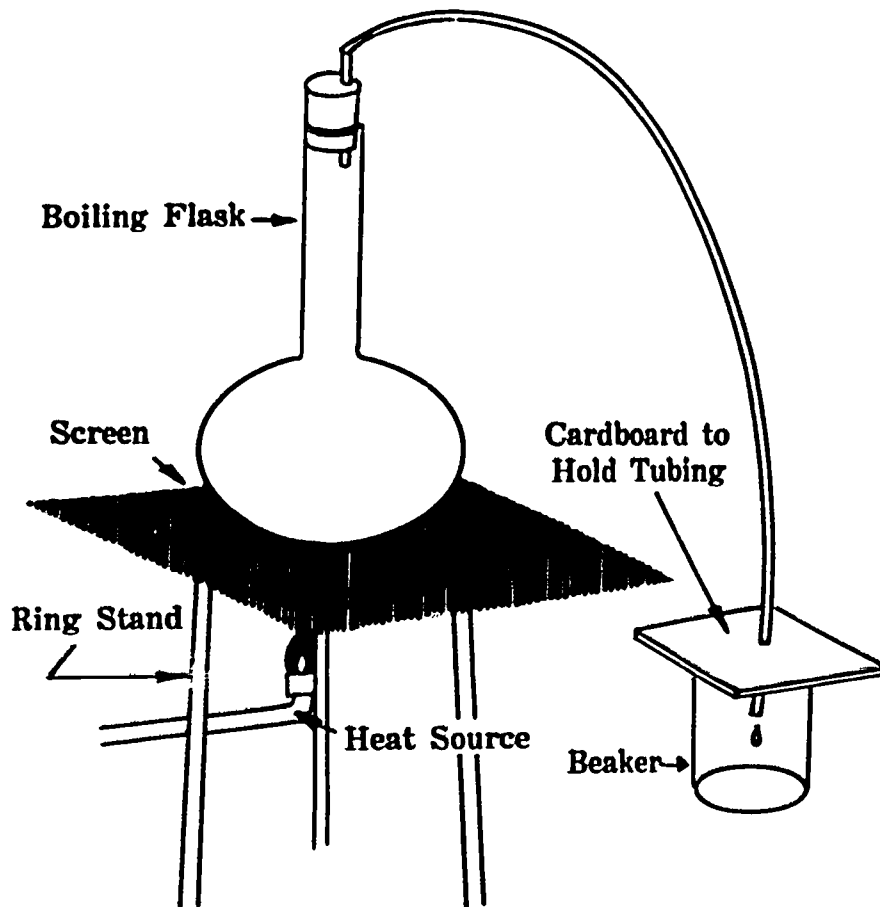

Fig. 49-4. Experimental Setup
6. Cork the flask with the stopper and set up the problem as shown in Fig. 49-4.
7. Light the propane torch and heat the flask as shown in Fig. 49-4.